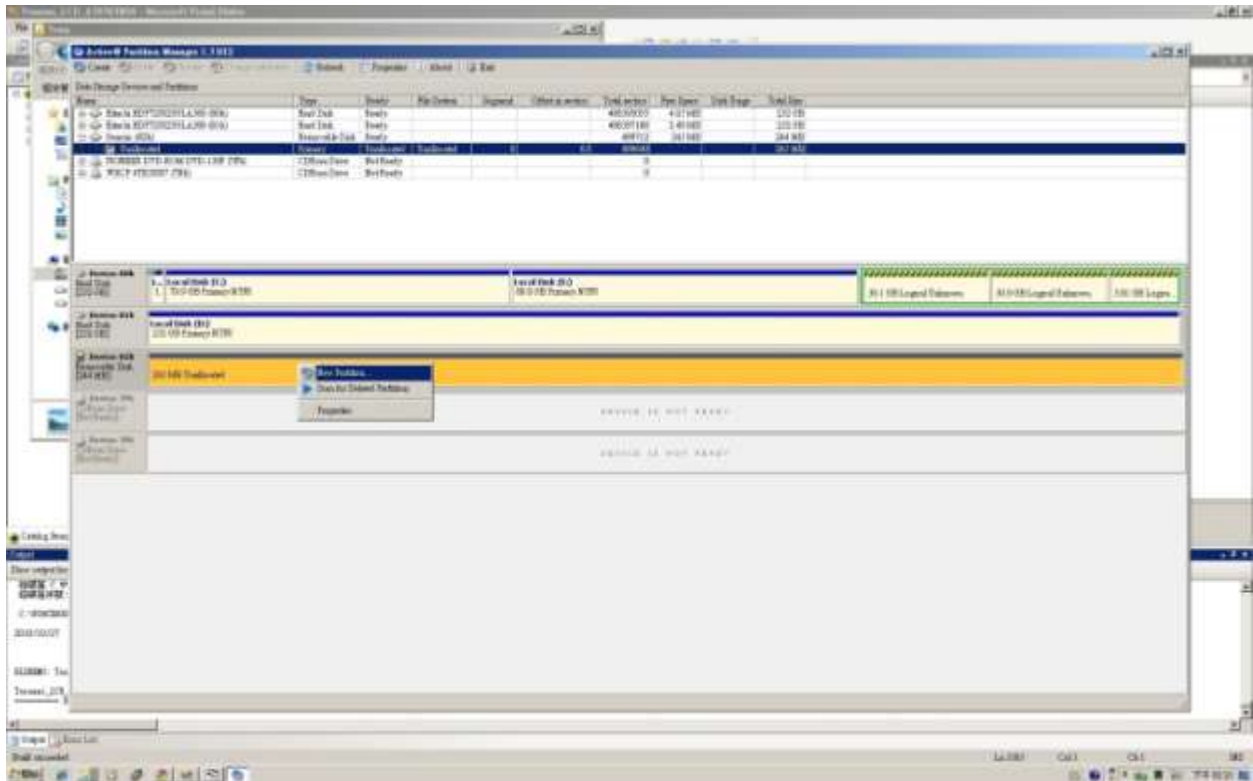

Figure 93
- Right click on removable disk and choose “new partition” (see Figure 93)